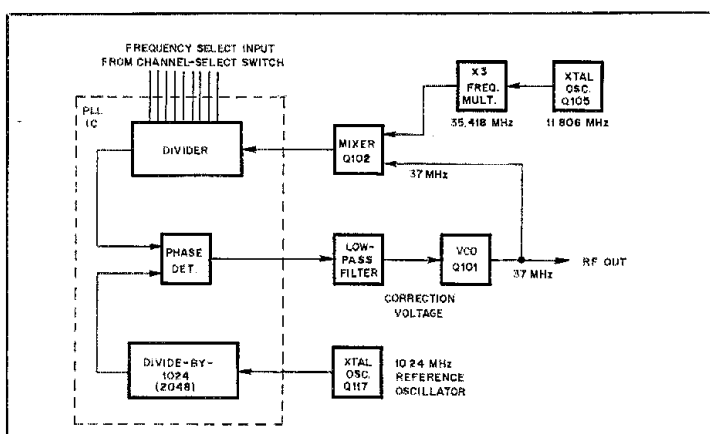

Fig. 1 — Block diagram of the Hy-Gain PLL synthesizer.
(LO) injection for the receiver section (10.695-MHz i-f), and is mixed with a 10.695-MHz crystal-oscillator signal to obtain the required 26.9- to 27.4-MHz CB transmitter output frequencies. See Fig. 1. The described modification will ignore the 10.695-MHz oscillator and transmitter mixer functions and will concentrate on the 37- to 38-MHz synthesizer.